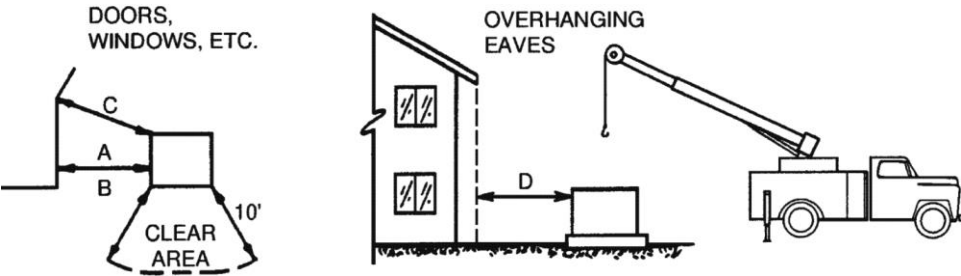

Figure 13 – Clearance to Transformers
10. The 200A meter pedestal must be installed on the two pipe and unistrut configuration. Refer to figures 13 and 14.